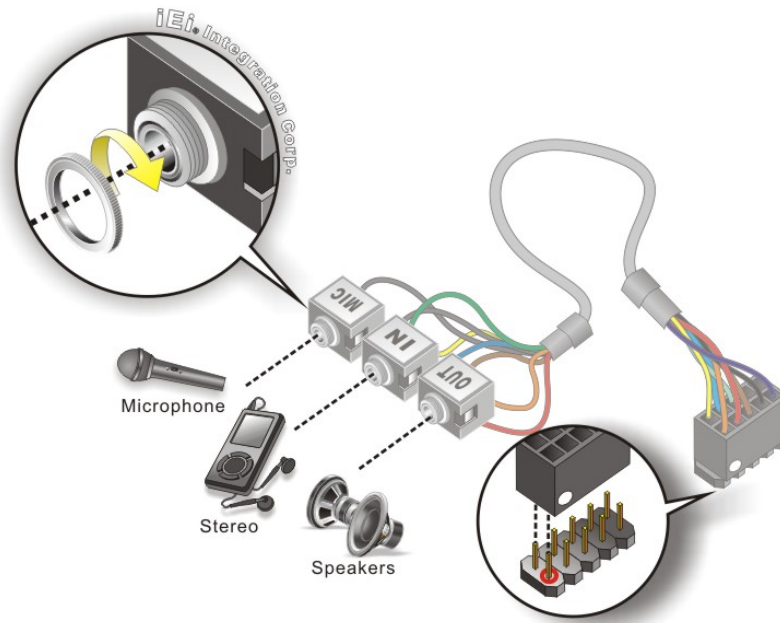

Figure 4-21: Audio Kit Cable Connection
Step 2: Align pin 1. Align pin 1 on the on-board connector with pin 1 on the audio kit connector. Pin 1 on the audio kit connector is indicated with a white dot. See Figure 4-21.